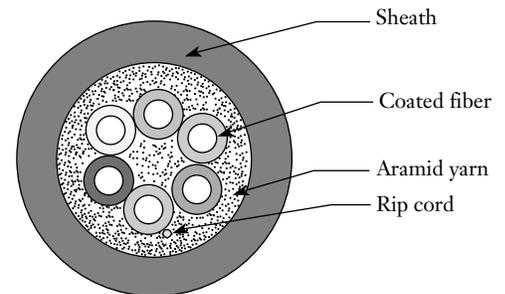

Figure 1
1.2 Corning Cable Systems Tactical Cable is a rugged, high performance cable designed for various applications (Figure 1).